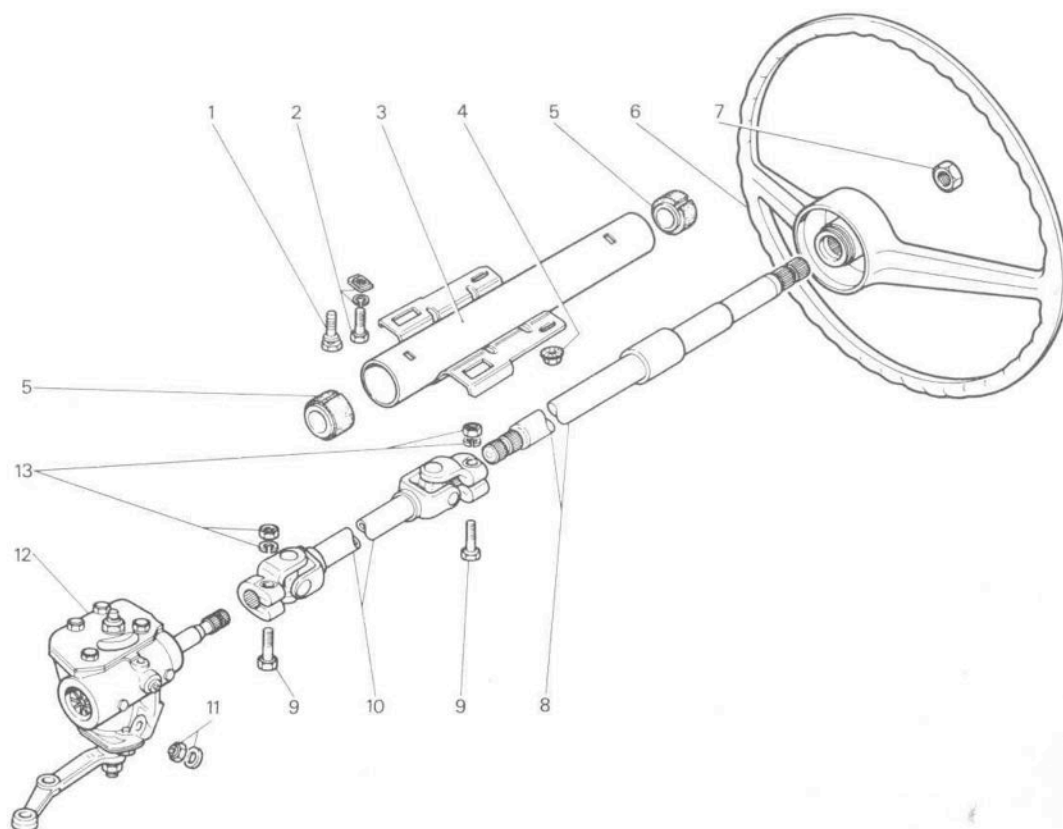

FIG 9:2 Components of steering column
When satisfied with the condition of the parts, reassemble in the reverse order of dismantling. Fit seal 2 with the open side facing inwards (see FIG 9:7). After refitting the worm, without sector but with the seal, tighten ringnut 4 to 22 lb ft (3 kgm) and check the rolling
**Key to Fig 9:2** 1 Anti-theft switch bolt 2 Bolt, lockwasher and lockplate 3 Upper shaft support 4 Nut 5 Rubber bushes 6 Steering wheel 7 Nut 8 Upper shaft 9 Bolt 10 Lower shaft 11 Nut and washer 12 Steering gearbox 13 Nuts and spring washers